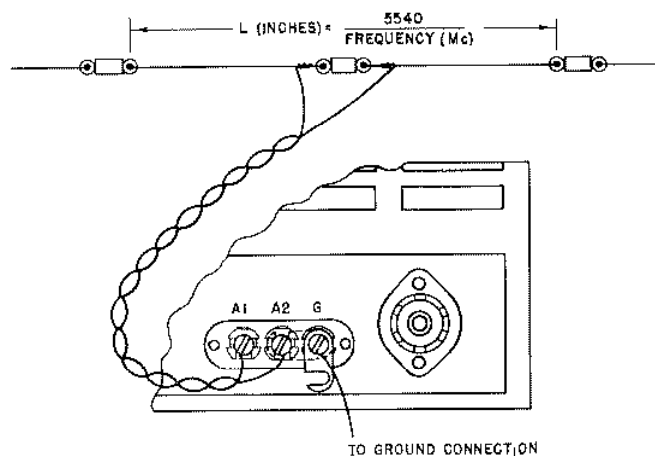

Figure 3. Doublet Antenna Installation.
**A. Single Wire Antenna.**—When using a single wire antenna installation, connect a jumper between the antenna terminal A2 and G. Then connect a single wire of about 50 to 75 feet (including lead-in) to terminal A1. Use #14 gauge copper wire or heavier for best results. Erect the antenna as high and free from surrounding objects as possible. This type of antenna works well where the signal to noise ratio is relatively high and a more elaborate installation is not practical. Refer to Fig. 3.
(1) To determine the proper length of the doublet antenna in feet:
(b) Wrap and solder the two wires of the lead-in to each of the quarter-wave sections at the insulator as shown in Figure 3.